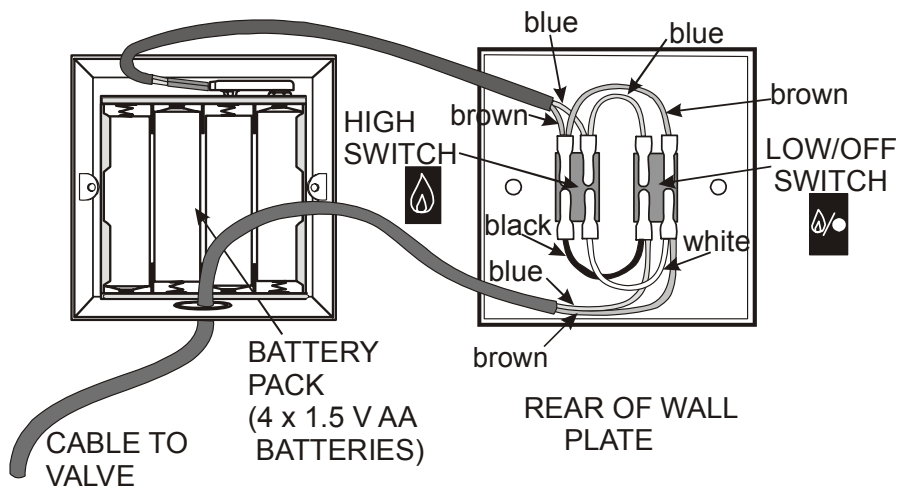

Figure 44
3. Make the connections on the wall switches as shown in **Figure 44**.